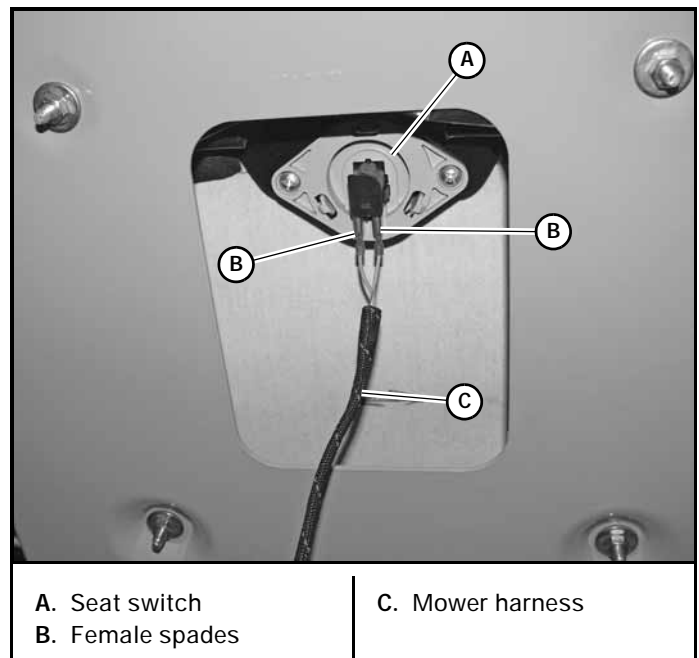

Figure 4-7
- Bypass the seat switch by connecting the two mower harness female spades together. Figure 4-7